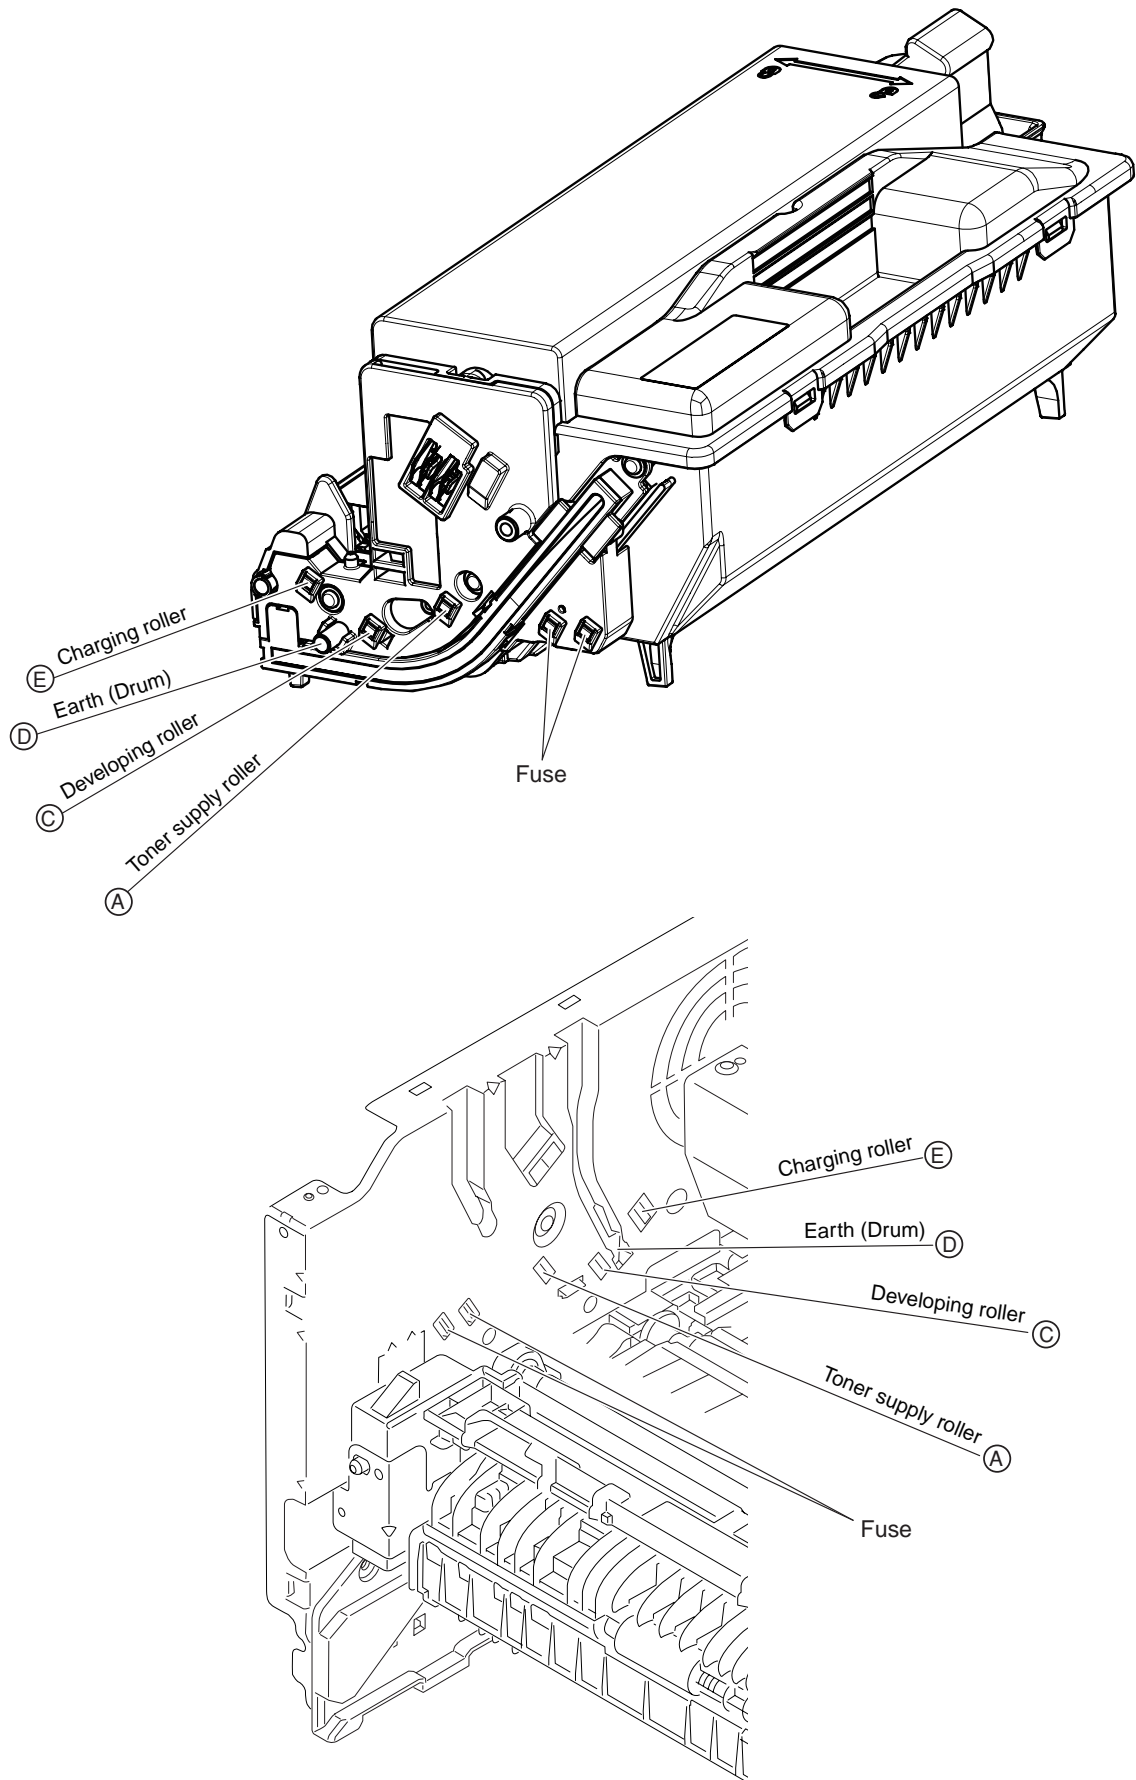

Figure 6-3
- ▼ Yes      Are the contact of the developing roller and toner supply roller of the image drum cartridge appropriately connected to the contact assembly? (See Figure 6-3 (A) and (C))